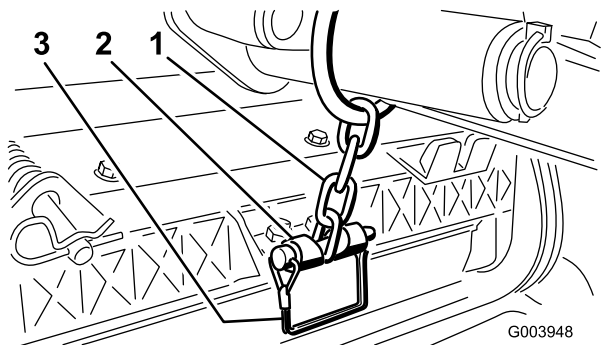

Figure 17
- Secure the lift arm chain to the chain bracket with the snapper pin (Figure 17). Use the number of chain links described in the cutting unit *Operator's Manual*.